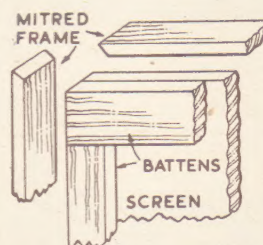

Fig. 2—Detail of construction
Round the edge of this is put a flat strip composed of the frame (E) and (F). These $\frac{3}{4}$ in. wide pieces are glued with the back edge flush with the back of the frame, so there is about $\frac{1}{4}$ in. projection at the front. The corner ends are mitred carefully with plane or file, to make a good joint. A detail of one of the corners is given in Fig. 2.